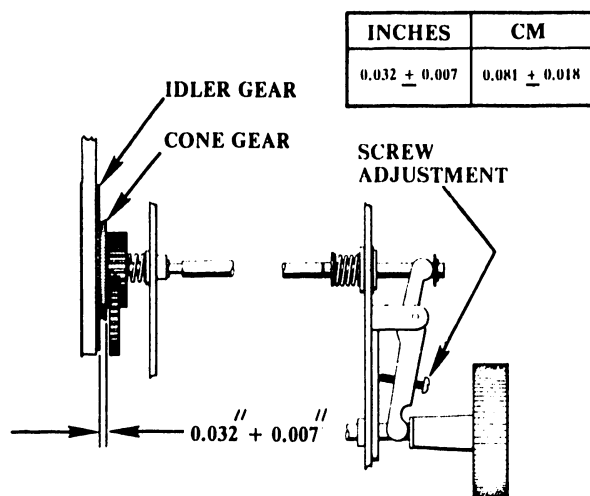
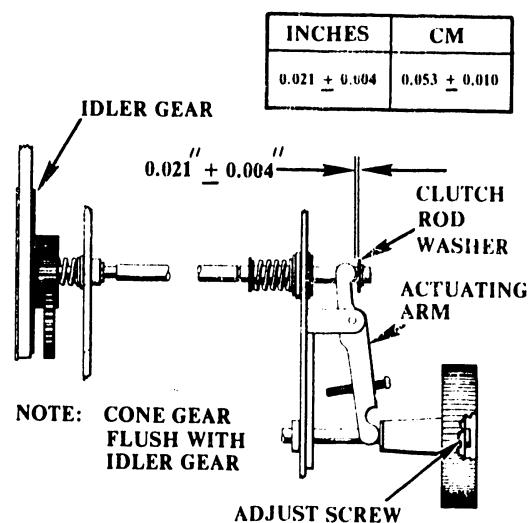

FIGURE 6-31 SPROCKET
FIGURE 6-32 SPROCKET
- 1) By using the horizontal vernier knob, push the vernier clutch in and out. With the use of a feeler gauge check for a clearance of  $0.032'' \pm 0.007''$  ( $0.081 \text{ cm} \pm 0.018 \text{ cm}$ ) between the idler gear and the cone gear as shown in Figure 6-31. Also, when the knob is released after paper advancement, the vernier clutch should fully reengage flush with gear surface as shown in Figure 6-32.
- 1) With the clutch engaged (automatic advance) adjust the Allen screw in the center of the horizontal vernier knob for a gap of  $0.021'' \pm 0.004''$  ( $0.053 \text{ cm} \pm 0.010 \text{ cm}$ ) between the actuating arm and the clutch-rod washer (see Figure 6-32).
- 2) With the clutch disengaged (manual advance), adjust the screw on the actuating arm for a  $0.032'' \pm 0.007''$  ( $0.081 \text{ cm} \pm 0.018 \text{ cm}$ ) gap between the cone gear and the idler gear (see Figure 6-31). (This screw can be adjusted through the hole in the horizontal vernier knob.)